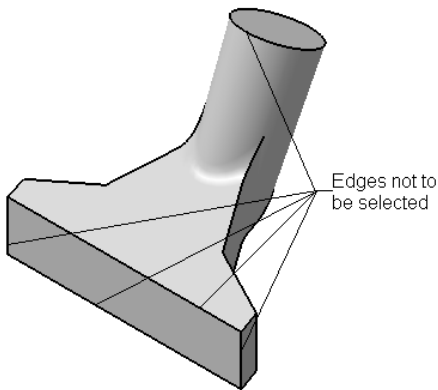

Figure 6-86 Edges not to be selected
4. Select all edges of the model, except the edges that are shown in Figure 6-86.